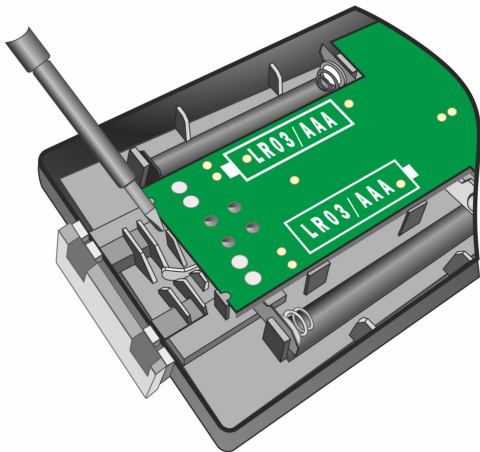

Fig. 5: Method of removing the light guide in order to replace it with a bank note holder.
With the utilization of this function, it is necessary to replace the default light guide as shown on Fig. 5, with a light guide equipped with a clip (6) on Fig. 1, which is included in the packaging. Banknote removal detection may be utilized to protect contracts or any other valued documents. in a safe or a security box.